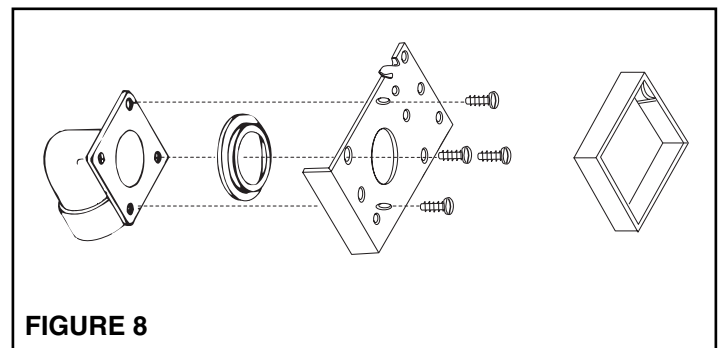

FIGURE 8
4. Refer to Figure 8. Remove cardboard from plaster guard frame. Using four (4) provided screws, attach the appropriate flanged fitting and inlet seal to back of inlet.